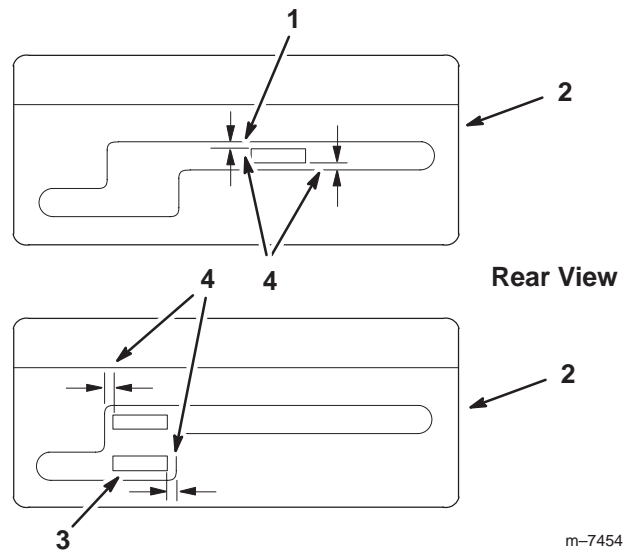

Figure 8
1. Shift lever to second gear and check alignment of lever in slot of shifter lever plate. The clearance between top and bottom of the shift lever should be equal (Fig. 8).
2. If clearance is not correct, remove lever and bend it slightly to adjust (Fig. 8).
3. Shift lever to neutral and check alignment of lever in slot of shifter lever plate. The clearance on the sides of shift lever should be equal (Fig. 8).